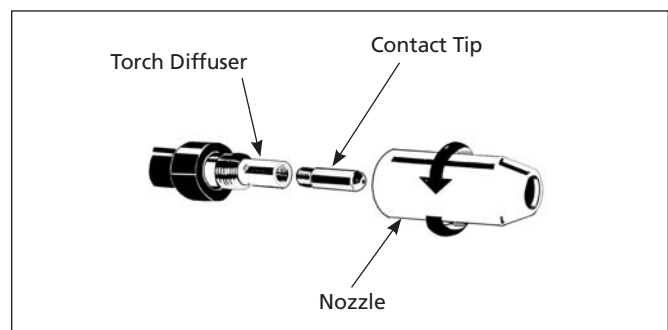

Figure 3 - Torch needle
- Wire matches contact tip in end of torch (See Figure 3).
7. Unscrew nozzle and contact tip from end of welding torch (See Figure 3). Plug welder into a proper power supply receptacle.
9. Carefully slip contact tip over wire, screw tip into torch end and reinstall nozzle (See Figure 3). Cut wire off approximately 1/4 inch from nozzle end.